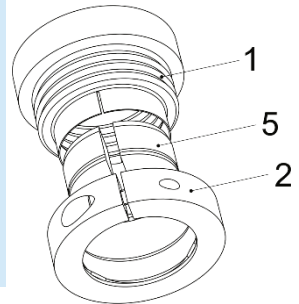

Fig. 5
- ❑ Avoid damage to the steel bellows (1) before and during installation.
- ❑ The clamping ring (2) with the holding spring (3) must be engaged in the reducing bushing (5) or the reducing bushing with tapered bore (6).
- ❑ In order to transfer the defined torques in Table 2 on page 2 correctly, the slots in the steel bellows (1), clamping ring (2) and reducing bushing (5) must be aligned (see Fig. 5).
Coupling Installation Types 932.333 / 932.433 (Fig. 5)
2. Push the entire coupling over the whole length of the reducing bushing (5) onto a shaft.
3. Make sure that the steel bellows (1) is pushed between the clamping ring (2) and the reducing bushing (5) up to its limit, and that the slots in the steel bellows (1), clamping ring (2) and reducing bushing (5) are aligned (see Fig. 5).
4. Tighten the cap screw (4). The screw tightening torques (see Table 1) must be observed.
5. Push the second shaft over the entire length of the reducing bushing (5) into the coupling.
6. Make sure that the steel bellows (1) is pushed between the clamping ring (2) and the reducing bushing (5) up to its limit, and that the slots in the steel bellows (1), clamping ring (2) and reducing bushing (5) are aligned (see Fig. 5).
7. Tighten the cap screw (4). The screw tightening torques (see Table 1) must be observed.
1. Remove the clamping ring (2) with the protruding reducing bushing with tapered bore (6) from the coupling.
3. Push the reducing bushing with tapered bore (6) onto the conical shaft.
4. Secure the reducing bushing with tapered bore (6) using a nut or a screw with press cover.
5. Push the rest of the coupling with the open steel bellows side up to its limit between the clamping ring (2) and the reducing bushing with tapered bore (6).
6. Tighten the cap screw (4). The screw tightening torques (see Table 1) must be observed.
7. Push the second shaft over the entire length of the reducing bushing (5) into the coupling.
8. Make sure that the steel bellows (1) is pushed between the clamping ring (2) and the reducing bushing (5) up to its limit, and that the slots in the steel bellows (1), clamping ring (2) and reducing bushing (5) are aligned (see Fig. 5).
9. Tighten the cap screw (4). The screw tightening torques (see Table 1) must be observed.